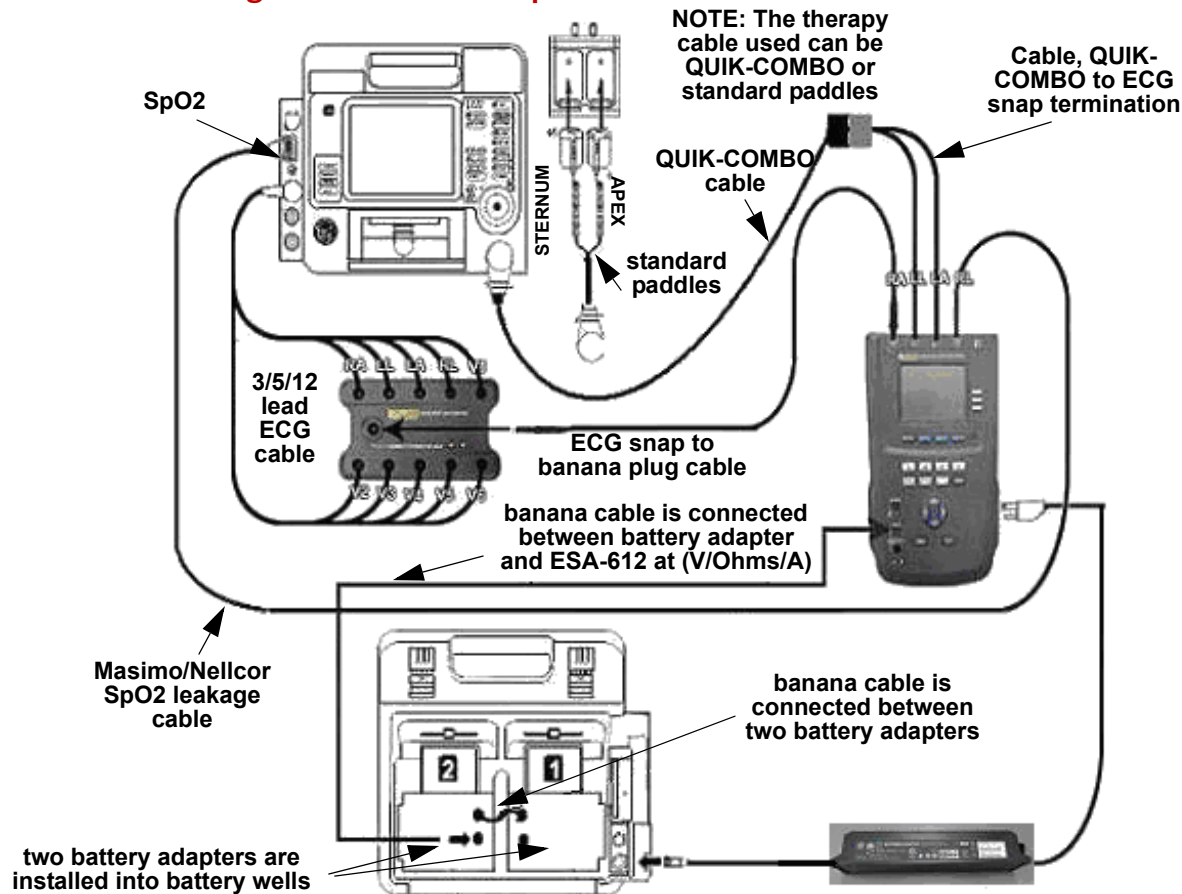

Figure 5.59—Leakage current test (AC) setup
- ◆ To set up leakage current test for AC powered (see Figure 5.59 on p. 182):